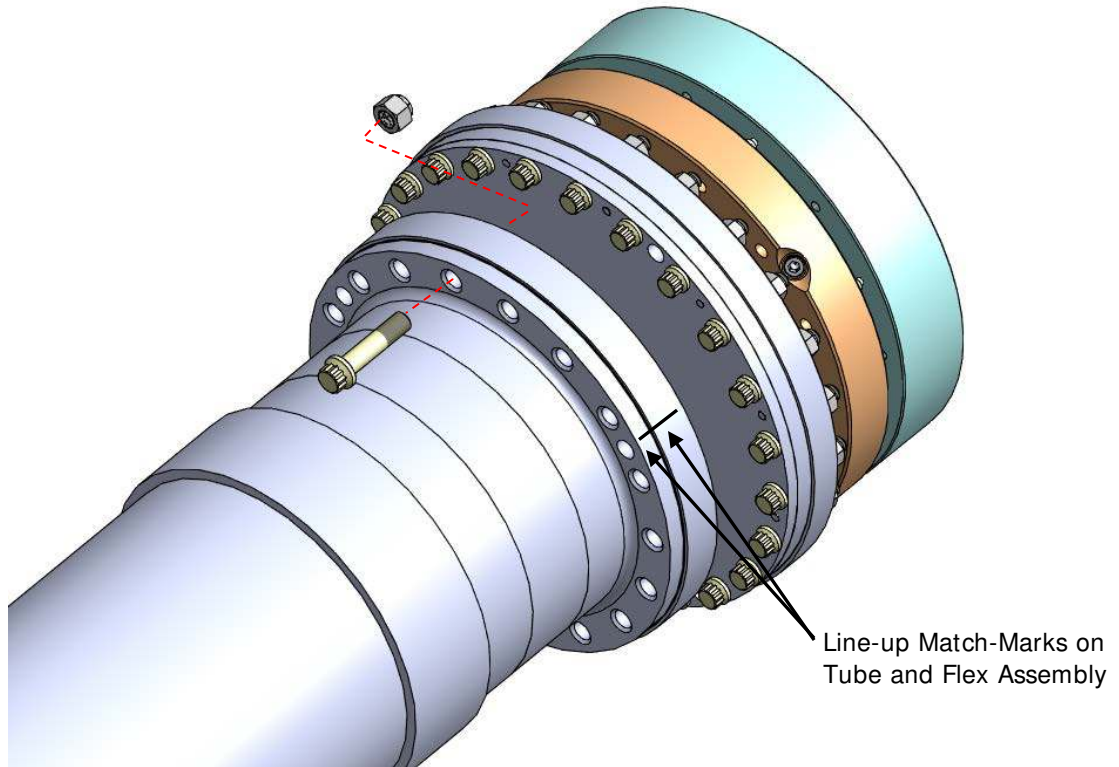

Figure 11 – Align Tube to Flex Assembly
4.2.2 Rotate the tube to line-up match-mark on the flange OD with the match-marks on the flex assembly OD, and align the holes using Qty (3) bolts spaced 120 degrees apart, as shown in Figure 11. The match-marks must be aligned to ensure access to the jacking holes used during removal.